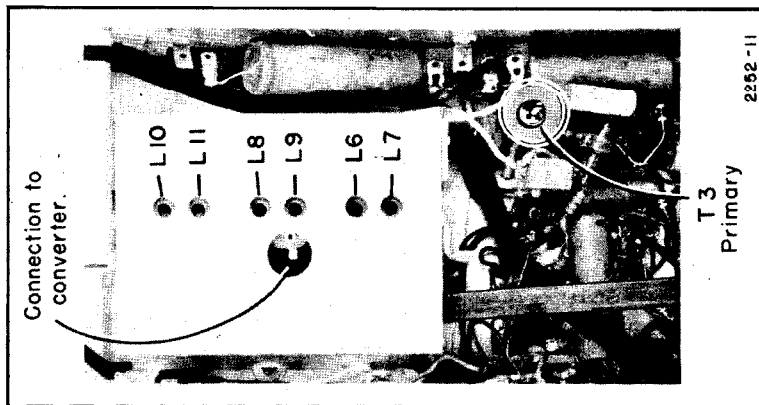

Figure 34. Underside of Chassis
2. Connect the signal generator, thru a 47-mmf capacitor, to the converter. Ground the generator to the tuner cover. The converter connection may be made thru a hole in the tuner cover (Figure 34).
29. Adjust the primary of ratio detector transformer T3 (see Figure 34) for symmetry of the ratio detector curve about the 4.5-megacycle center.